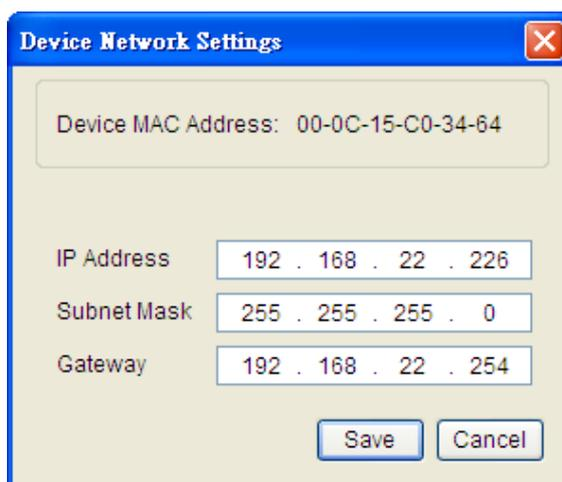

Figure 2. The SNMP card setting window.
5. You can modify the IP Address, Subnet Mask, and Gateway address for the Device MAC Address listed in the Device Network Settings window, as shown in Figure 2.